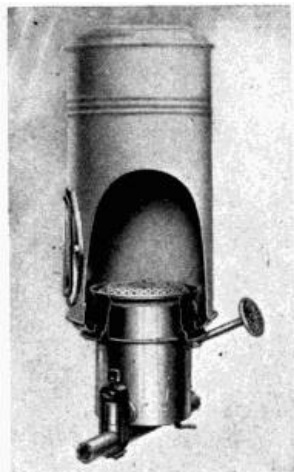
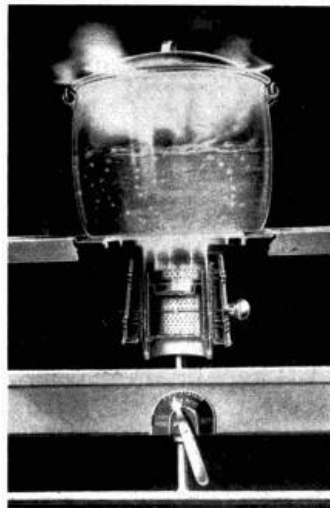

FIG. 13. Burner for oil stove.
FIG. 12. Oil stove burner, showing fire close to utensil.
The burners on one oil stove are usually all alike. The burners on various makes differ. Those in which the flame comes nearest the kettle or cooking food produce the most heat for cooking (Fig. 12). Those with the blaze farther away from the food seem to be easier for the excitable woman to manage (Fig. 13).
27. Management of the Flame. Turn the flame no higher than is needed to keep the pot boiling. Some stoves do not burn well when turned very low. Do not have the flame so high or so low that it gives off smoke or gas. When turning out the fire, be sure to turn the wick clear down, or turn the valve or lever (Fig. 12) to the point indicated as *out* on stoves which lift the ring above the oil. If this precaution is not taken, most stoves leak oil when not in use, because the wick or rings carry oil to the upper part of the burner where it spreads over the stove.